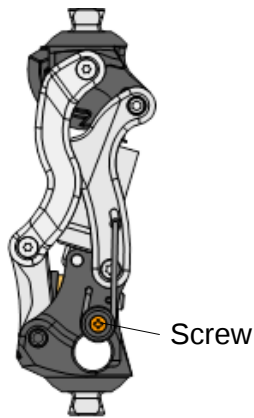

Fig. 12
1. Use a Phillips –head screwdriver to loosen the screw shown in Fig. 12.